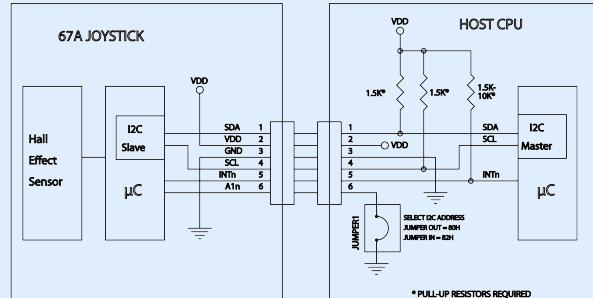

Figure 4.5: Interfacing guidelines given in the datasheet of Joy Stick.
**Important** Pull-ups for SDA and SCL are taken as  $1.5\text{k}\Omega$  as recommended in the interfacing diagram from the datasheet. The pull-up for INTn is taken as  $10\text{k}\Omega$ . See figure 4.5 for more info.